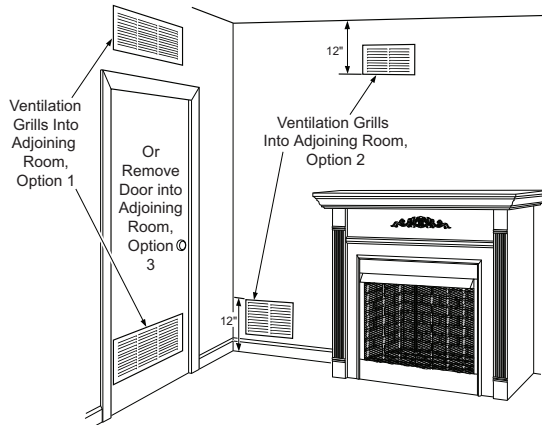

Figure 4 - Ventilation Air from Inside Building
This fresh air would come from an adjoining unconfined space. When ventilating to an adjoining unconfined space, you must provide two permanent openings: one within 12" of the ceiling and one within 12" of the floor on the wall connecting the two spaces (see *options 1 and 2, Figure 4*). You can also remove door into adjoining room (see *option 3, Figure 4*). Follow the **National Fuel Gas Code, ANSI Z223.1/NFPA 54, Air for Combustion and Ventilation** for required size of ventilation grills or ducts.
- where curtains, furniture, clothing, or other flammable objects are less than 36" from front or 42" from top of firebox; for side clearances see Figure 4, Page 11
Example: The face of a mantel, bookshelf, etc. is made of combustible material and protrudes 3-1/2" from the wall. This combustible material must be 4" from the side of the fireplace cabinet (see Figure 4).